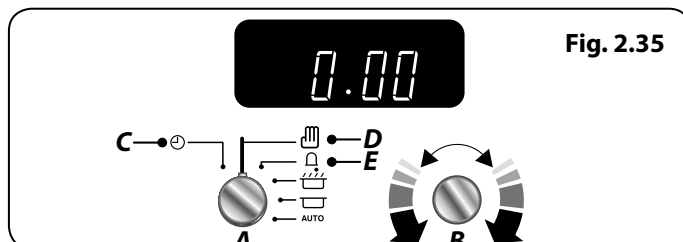

Fig. 2.35
6. When you return, turn the **Timer (A)** knob to the **Manual (D)** setting to return to manual cooking and reset the Multifunction Oven modes once cooking is complete (**Fig. 2.35**).
- I. Turn the **Adjusting (B)** knob counter-clockwise or clockwise (**Fig. 2.35**).
- II. Turn either the **Timer (A)** knob to the **Clock (C)** or to the **Minute Minder (E)** setting. Return to **Manual (D)** for normal cooking mode (**Fig. 2.35**).